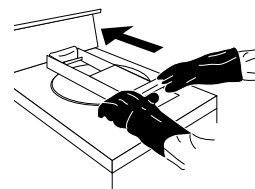

FIGURE 12
C. Then with the lid in the lowered position, use one hand to move handlebar to open. (Figure 12)